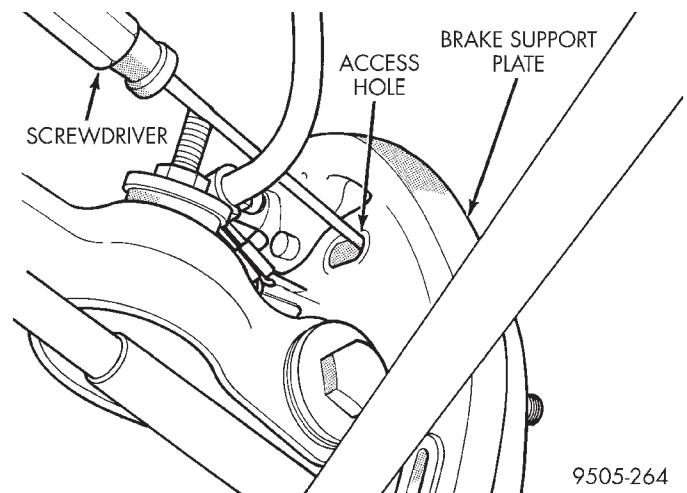

Fig. 106 Backing Off Rear Brake Shoe Adjustment
(4) Insert a screwdriver, through the automatic adjuster access hole, in the rear brake support plate (Fig. 106). Engage screwdriver with the teeth on the adjuster mechanism quadrant. Then rotate quadrant